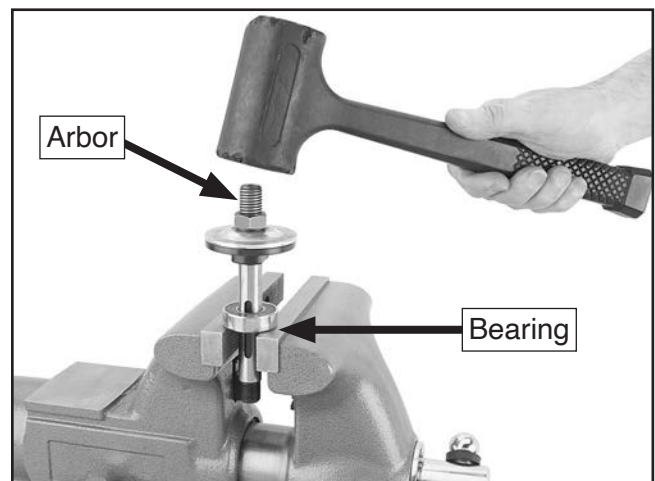

Figure 138. Seating arbor into new bearing.
19. Slide new 6203-2RS ball bearing (PN# P1023RL100), onto arbor shaft, then place arbor between vise teeth, as shown in **Figure 138**.
20. Using rubber hammer, seat arbor onto bearing (see **Figure 138**), then remove it from vise.